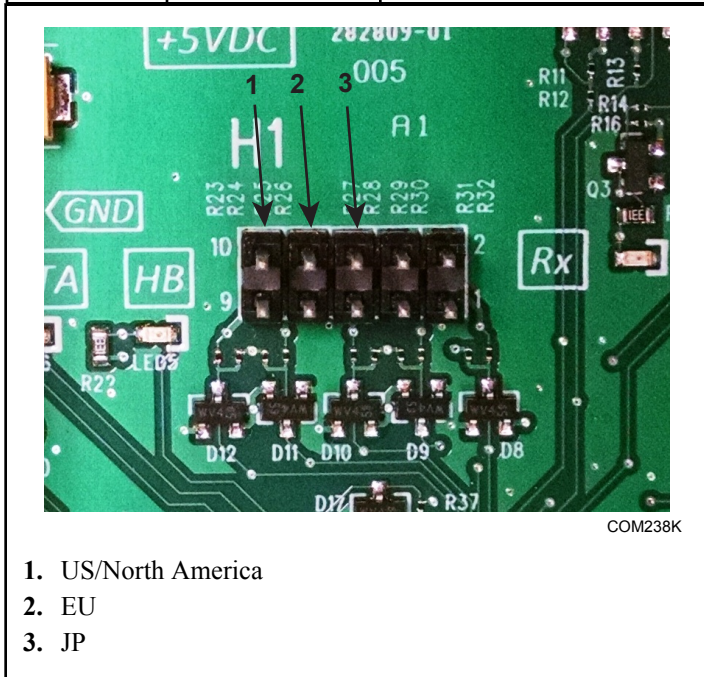

Figure 11
- Place 807428 Compliance Jumper on the appropriate pins on header "H1". Note that the board will operate at reduced power if this step is skipped. Refer to *Figure 11*.
3. Place 807428 Compliance Jumper on the appropriate pins on header "H1". Note that the board will operate at reduced power if this step is skipped. Refer to *Figure 11* .
The 807428 Compliance Jumper must be placed in one of three locations on header "H1". The three locations are shown in the table below and also in *Figure 11*.